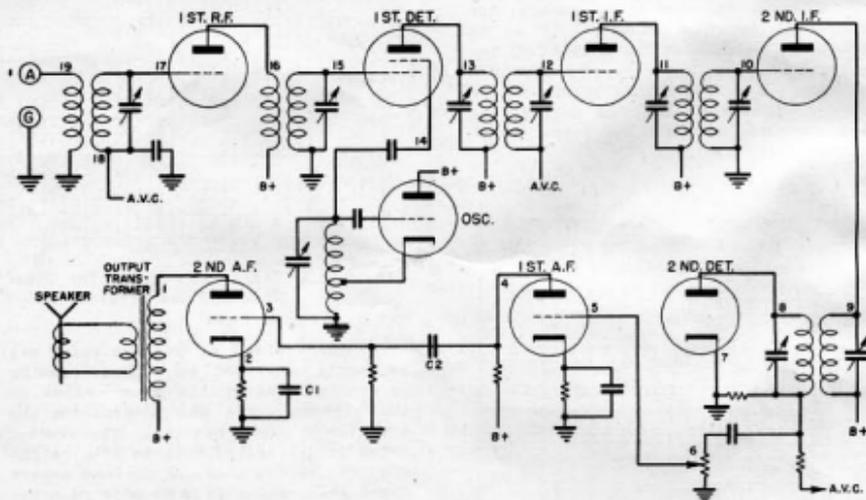
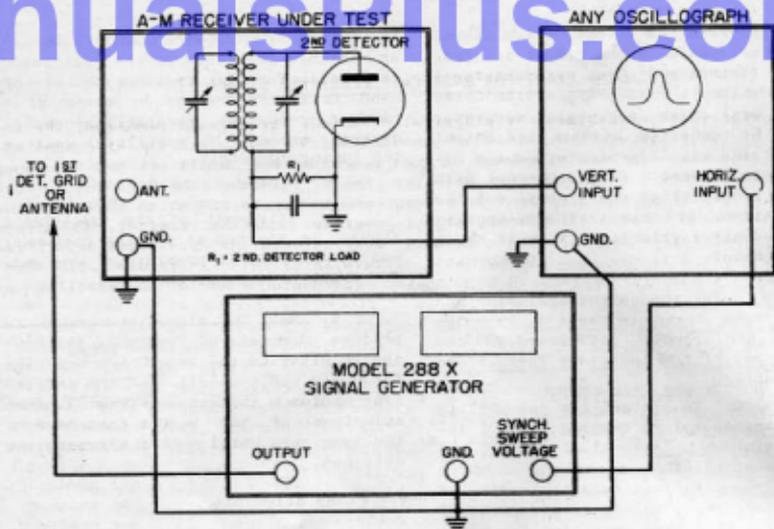
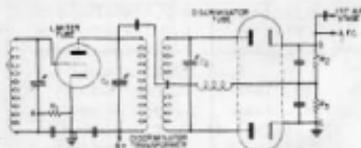

Figure 4.1 - Basic Circuit,
Figure 4.2 - Interconnections for Alignment
Figure 4.3 - Discriminator Circuit
In general, all of the models may be used for the same purpose. Should the Model 277X be purchased, a voltmeter may be used, in many cases, to replace the decibel meter. As the applications indicated here are general in nature, the specifications of the manufacturer should be consulted in making all tests. A basic circuit diagram of the seven tube amplitude modulated superheterodyne receiver which is referred to throughout the following discussions is shown in Figure 4.1. Frequency modulated receiver circuits have, in addition to the stages shown, limiter and discriminator (2nd detector) stages. (Frequency modulation is discussed in detail in Section II, Theory, Paragraph 2.6).
The following chart summarizes the alignment effected, the signals required, the indicating medium required, the points of connection for both, and the alignment adjustment necessary for the alignment of the stages of both amplitude and frequency modulated receivers. In conjunction with this chart, reference is made to the text for greater detail on the alignment to be made and to Figure 4.2 which shows the interconnections of the oscillograph, signal generator and the receiver. All points given are with reference to the basic circuit of the superheterodyne receiver, illustrated in Figure 4.1, and the discriminator circuit illustrated in Figure 4.3. The oscillograms which will be obtained when making alignment by means of the oscilloscope are shown in Figure 4.4 - 4.10.
1. In frequency modulated receivers there is at least one, and sometimes two, limiter stages ahead of the discriminator (2nd detector) stage. See Figure 4.3. The general procedure for the alignment of frequency modulated receivers is similar to that for the alignment of amplitude modulated receivers except that, in the alignment of various stages, it is necessary to have either a sensitive microammeter, preferably zero-centered, or a vacuum tube voltmeter, such as the Hickok Models 125, 203 or 110D, or cathode ray equipment such as the Hickok Model 305.
2. Figure 4.3 illustrates a typical limiter and discriminator circuit. If no scope is available it will be necessary in the alignment of all i-f and r-f stages and the local oscillator preceding the limiter stage, to either disconnect the limiter load resistance, R1, from ground and insert a microammeter, or to connect a vacuum tube voltmeter across R1, and use either meter as an indicator of alignment of the preceding stages. The alignment procedure will be identical to that for amplitude modulated receivers.
-- All connections are made in reference to Figure 4.1. Connect the decibel meter either at the primary of the output transformer (point 1), or across the voice coil of the speaker, and feed a signal in at the grid of the audio frequency output stage (point 3). Note the reading of the indicating meter, and, maintaining the signal level constant, transfer the signal to the grid of the 1st A.F. (point 5). The gain of the stage can be calculated from the increase in the meter reading. If the tube is a triode, the gain may not exceed 10. However, if it is a pentode, the gain may be as high as 50 or 100.
**a. General** - The Model 288X, when properly used, is a very valuable instrument for locating trouble in electronic devices. In the case of radio receivers it is advisable in locating faults, to start at the speaker or output stage and work back towards the antenna. All following information on trouble-shooting is with reference to the basic circuit of the superheterodyne receiver, illustrated in Figure 4.1.